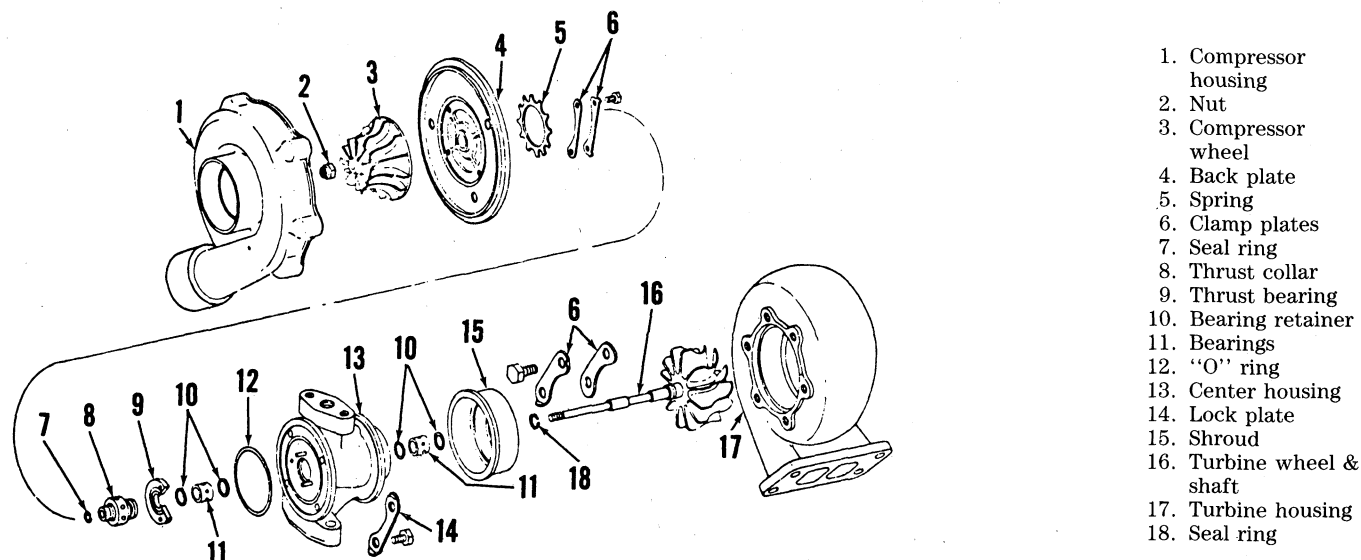
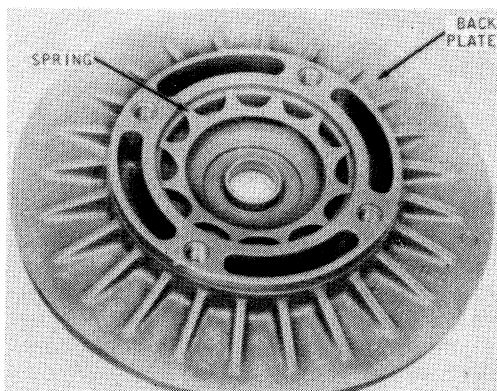

Fig. 68—Exploded view of AiResearch Model T04B turbocharger used on some models.
Fig. 69—On AiResearch turbocharger, back plate and spring must be renewed as an assembly if either is damaged. Do not remove spring from back plate.
61. OVERHAUL. Prior to disassembly, scribe indexing mark on compressor housing (1—Fig. 68), center bearing housing (13) and turbine housing (17) to aid in correct alignment during reassembly.
Lift off compressor wheel and withdraw turbine shaft (16) and shroud (15). Remove back plate (4), thrust bearing (9) and thrust collar (8). Do not remove spring (Fig. 69) from back plate. The back plate and spring are available only as an assembly. Carefully
remove snap rings (10—Fig. 68) from outer ends of bearing housing bore, then withdraw bearings (11).
Illustration for Fig. 69 reproduced by permission of Deere & Company. Copyright Deere & Company.
The following parts should be renewed anytime turbocharger is disassembled: “O” ring (12), seal rings (7 and 18), snap rings (10), bearings (11), thrust bearing (9) and lock plates (6 and 14). If removed, install inner snap rings (10) so rounded shoulder will be toward the bearings. Lubricate bearings (11) with clean oil and install in housing (13). Install outer snap rings so side with rounded shoulder is against bearings. Assemble shroud (15) and seal ring (18) onto turbine shaft, then insert shaft through bearings while carefully compressing seal ring into place in the housing. Install new seal ring (7) into groove of thrust collar (8), then assemble thrust bearing (9) with smooth side toward seal ring end of collar. Install thrust bearing and collar assembly over shaft making certain pins in housing engage holes in thrust bearing. Install new “O” ring (12) in housing groove. Be sure spring (Fig. 69) is positioned in back plate, then carefully install back plate over seal ring (7—Fig. 68) by engaging open end of seal ring into bore of back plate first. Install lock plates and cap screws securing back plate to bearing housing, and tighten to 75-90 in.-lbs. (8.5-10 N·m). Secure turbine wheel and shaft in a suitable holding fixture, then install compressor wheel (3) and a new locknut (2). Using a double universal socket to avoid bending the turbine shaft, tighten nut to exactly 20 in.-lbs. (2.2 N·m). Then, continue to tighten nut an additional 1/4 turn (90 degrees). This procedure stretches the shaft 0.0055-0.0065 inch (0.140-0.165 mm) to provide the proper tension.
Install compressor housing (1—Fig. 68) and align indexing marks. Tighten mounting cap screws to 110-130 in.-lbs. (12.4-14.7 N·m).